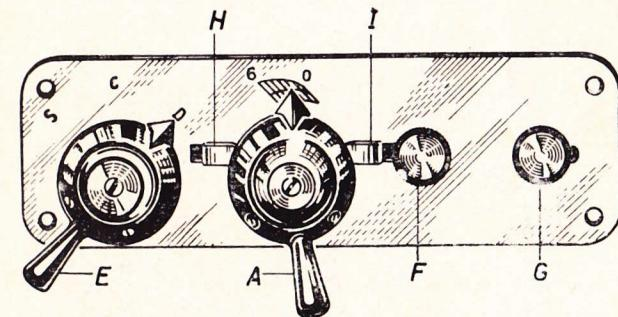

fig. 30
- 2) Set the index of the zig-zag position control knob E to the extreme right, under D (Fig. 30).